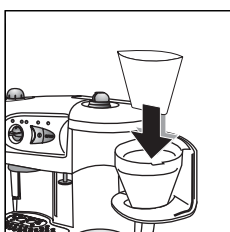

fig. 5
- Place the paper filter in the filter holder (Fig. 5). The use of size "4" paper filters is recommended.